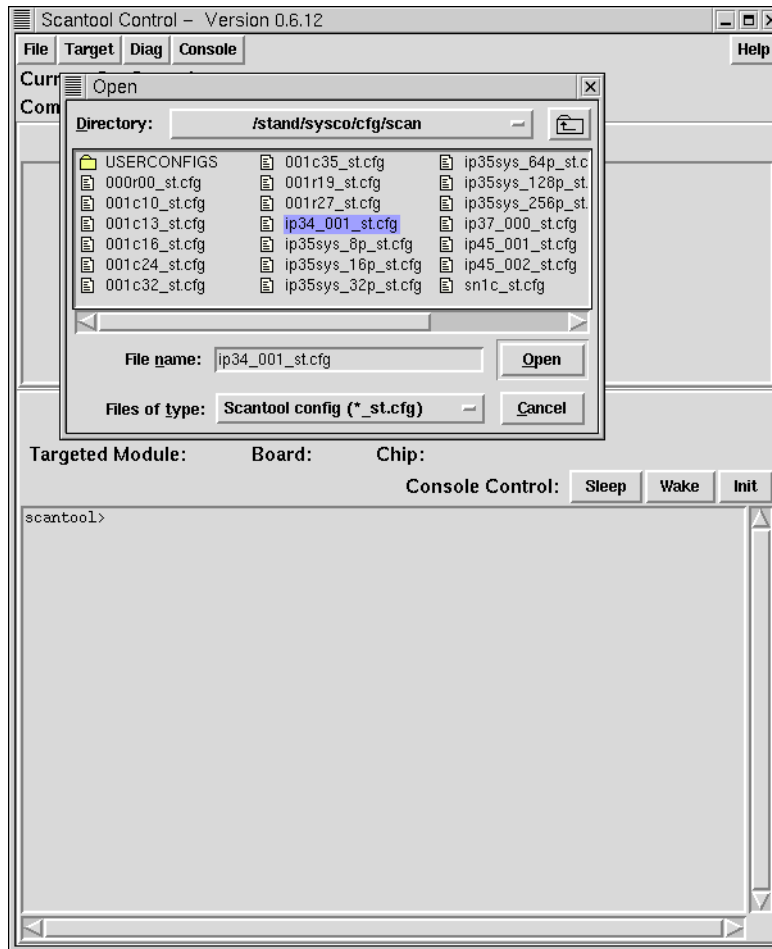

Figure 2-16 Loading the Configuration File
- Double-click on the **ip34_001_st.cfg** configuration file. (Refer to Figure 2-16.)